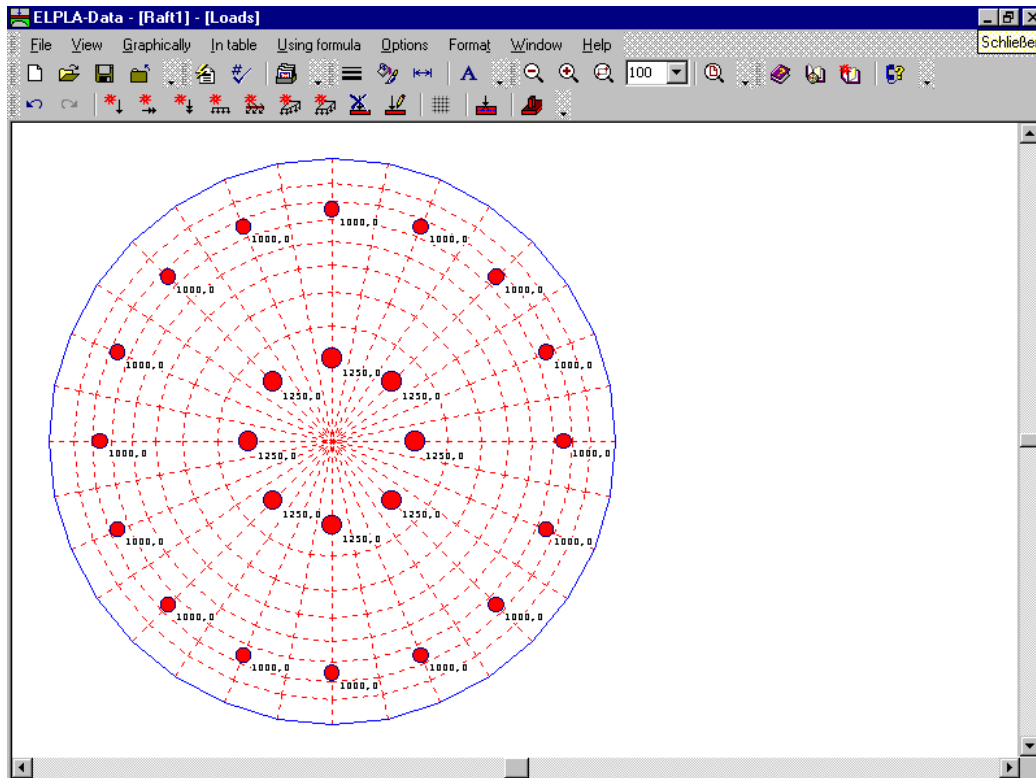

Figure 3-26 Loads on the screen
After you have completed the definition of all load data, the screen should look like the following Figure 3-26.
- Choose "Save loads" command from "File menu in Figure 3-26 to save the load data
- Choose "Close loads" command from "File" menu in Figure 3-26 to close the "Loads" embedded program and return to the main window of *ELPLA-Data*